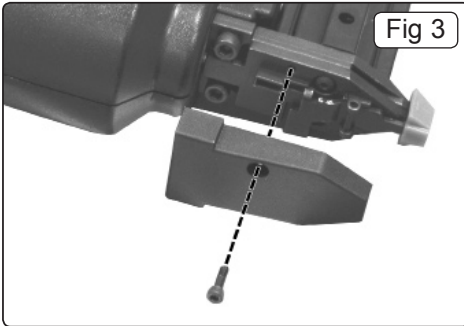

Fig 3
- 4.3 Remove hex screw (3/32") and remove the plastic cover (Fig 3).